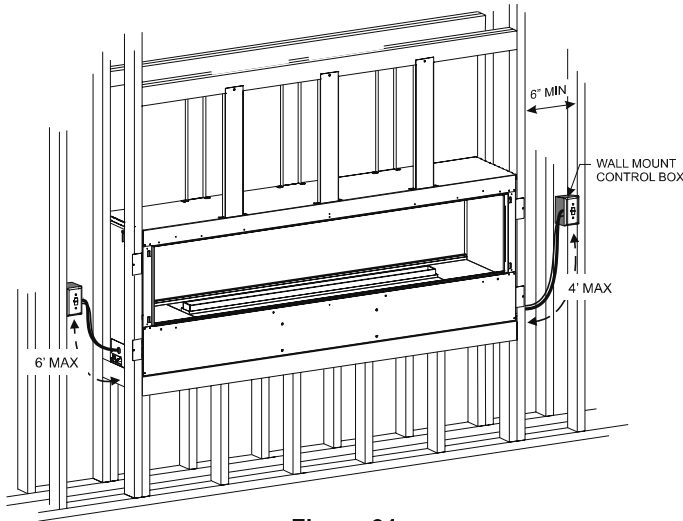

Figure 31
13. Install the wall-mounted control box within 6 feet to the left side or 4 feet from the right. **See Figure 31.**